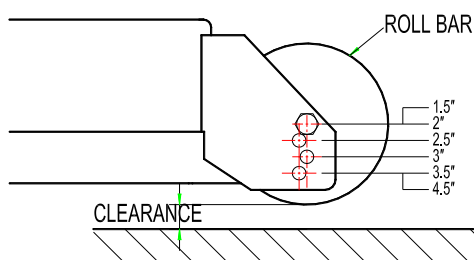

FIG 6
- Adjust anti-scalp rollers for Normal Operating Conditions. Stop engine, wait for all moving parts to stop, and remove key. Place rollers in one of the positions shown in Figure 6. Rollers will maintain 3/4 in. (19mm) clearance to the ground to minimize gouging and roller wear or damage.